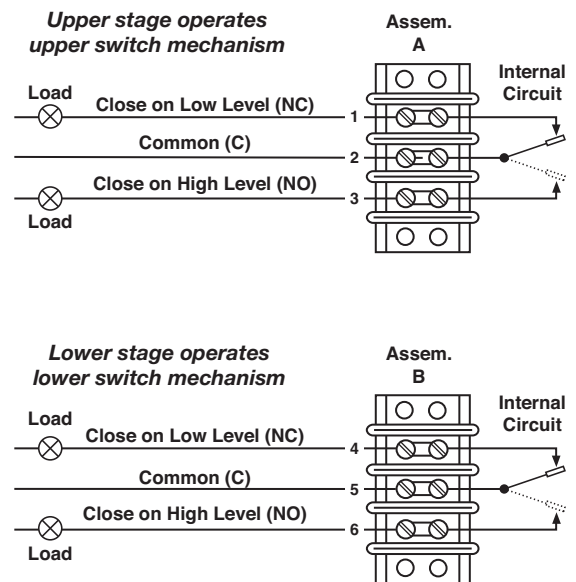

Figure 11
1. Rising level closes contacts 5 & 6 and 2 & 3, see Figure 11.